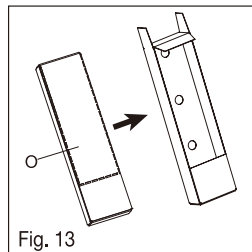

Fig. 13
- Tear the drilling template box (O) according to the dashed line (see Fig. 13).